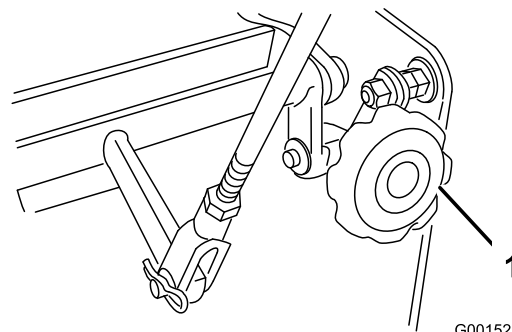

Figure 44
4. If the machine tracks to one side or the other, turn the quick track knob. Turn the knob right to steer right and turn the knob left to steer left (Figure 44).